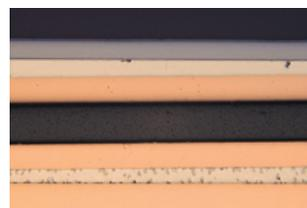
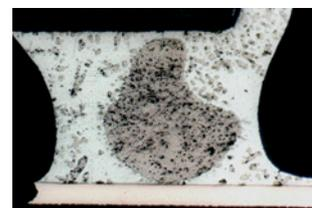

Fig. 5: Relief from polishing due to different hardness of materials
Fig. 6: Diamond particles in solder
**Polishing:** Smearing of soft metal layers. Relief due to hardness differences of materials in a component (Fig. 5). Silicon carbide and diamond particles remaining in solder (Fig 6).